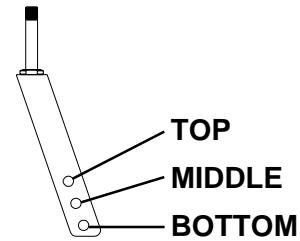

FIGURE 2 - CHANGING SEAT-TO-FLOOR HEIGHT - ADULT/HEMI
2. Remove the rear wheels from the wheelchair by performing one (1) of the following:
4. Refer to the charts of front caster/fork and rear wheel sizes to determine mounting positions for obtainable seat-to-floor heights in **FIGURES 2 and 3** depending on frame style.
6. Reinstall the rear wheels onto the wheelchair. by performing one (1) of the following: